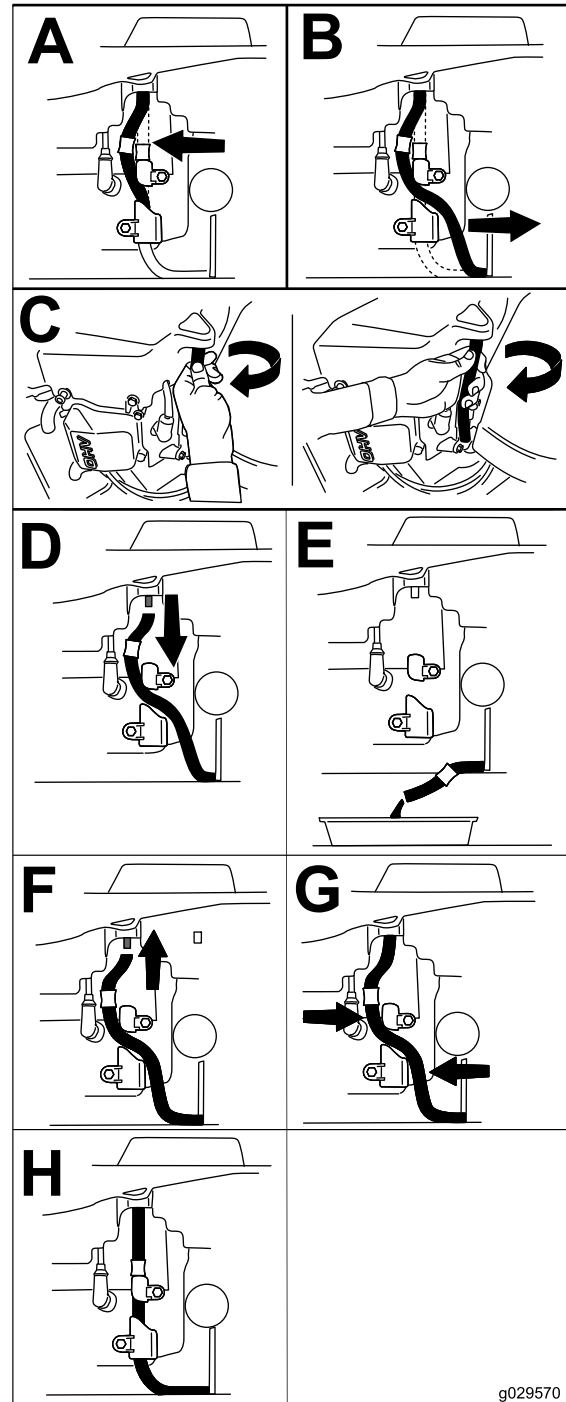

Figure 45
3. Drain the oil from the engine (Figure 45).